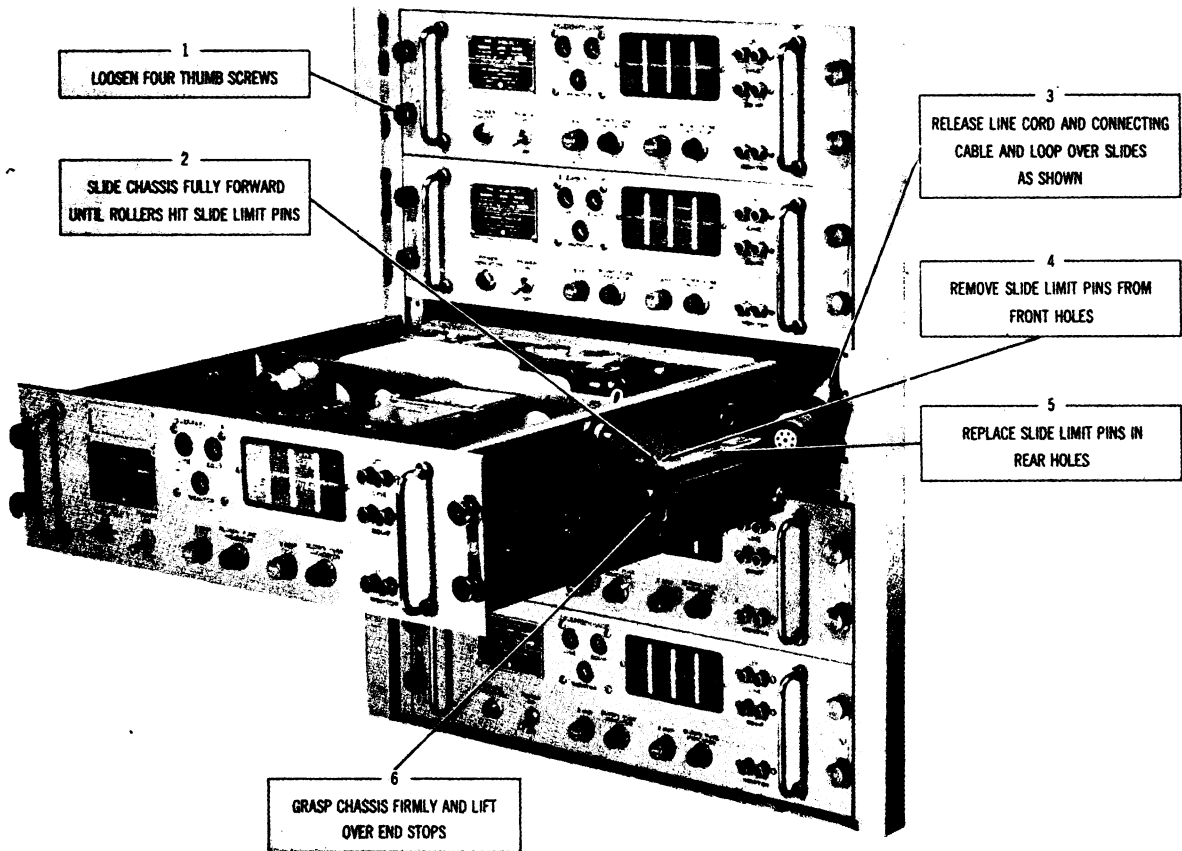

Figure 3-3. Operation of Slide Assembly
a. GENERAL. - The units of the equipment are positioned in each cabinet assembly as shown in figure 1-1. All filters and tubes are in place making each chassis ready for operation. The recommended method of installation is with access to the rear door to permit easy installation wiring. To remove a panel and chassis from the cabinet, loosen the four panel thumb screws and pull the panel and chassis out on its slides until the chassis rollers touch the slide limit pins. See figure 3-3. With the chassis in this position, release the line cord and connecting cable and loop them over the slides between the rear of the chassis and the cabinet. Do not allow these cables to lie loosely in the chassis as they may become entwined with components result-